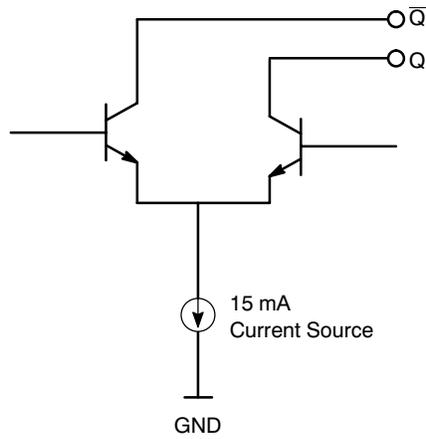

Figure 4. Output Structure
\*The PECL Outputs are 15 mA open collector and must be DC loaded and AC terminated. See Figures 4, 5 and 6.
5. PECL outputs loaded with external resistors for proper operation (see Figures 4, 5 and 6).
The NB4N507A requires a 0.01  $\mu$ F decoupling capacitor to be connected between  $V_{DD}$  and GND on pins 2 and 5. It must be connected close to the NB4N507A. Other  $V_{DD}$  and GND connections should be connected to those pins, or to the  $V_{DD}$  and GND planes on the board. Another four resistors are needed for the PECL outputs as shown in Figure 4. Suggested values of these resistors are shown, but they can be varied to change the differential pair output swing, and the DC level.